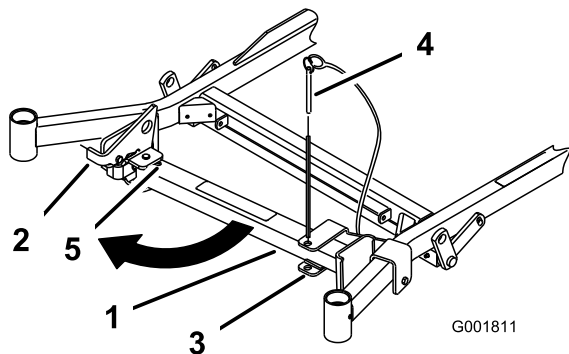
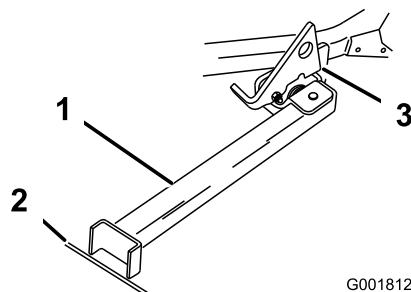

Figure 42
Figure 43
2. Remove the bracket pin (Figure 42).
3. Raise the latch. Swing the stand foot out front and slide stand toward machine, into the bottom of slot (Figure 42 and Figure 43).
6. Set the foot of stand on the ground and rest the latch on the pivot tab (Figure 43).
Note: For best results, place the foot of stand into seams in sidewalks or into the turf (Figure 43).
8. Drive onto the stand. Stop when the latch drops over the tab into the LOCKED position (Figure 43). Once onto the stand, engage the parking brake and shut off the engine.
7. Return the stand to its REST position (Figure 42).